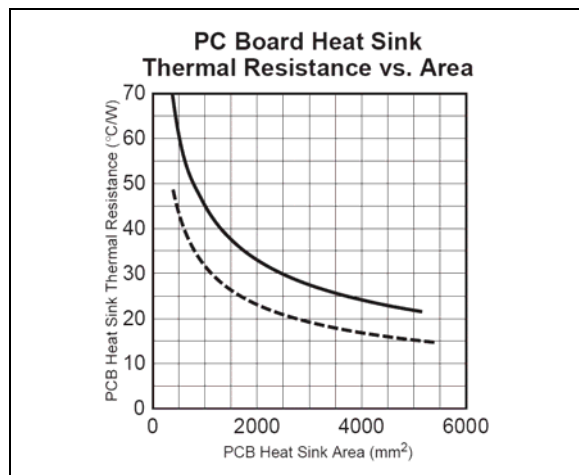

FIGURE 4-4: Excerpt from the LDO Book.
- $R_{\theta CA} = 53^\circ C/W$ (as read from Figure 4-4)